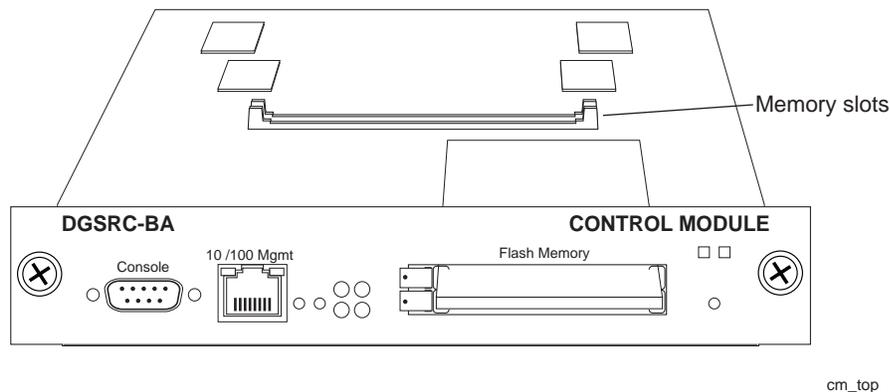

Figure 15. Location of DIMM slots
- Remove the DIMMS from the memory slots. Figure 15 shows the locations of the DIMM slots.